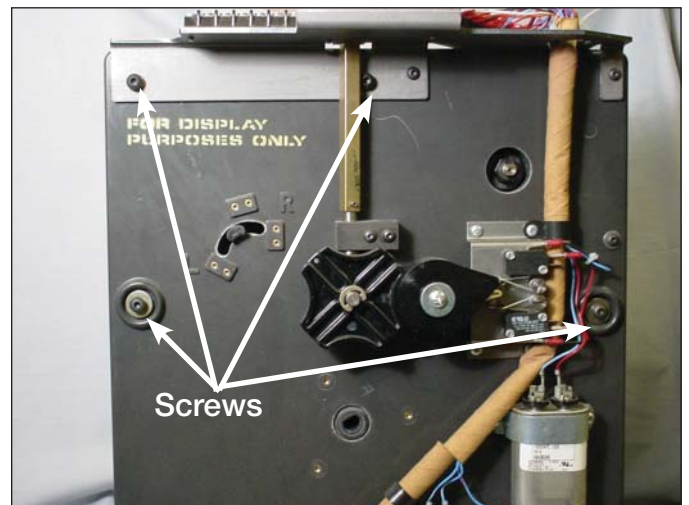

Figure 35.
- Insert four pan head Allen screws into the tap changer assemblies. Two screws will mount the two tap changer assemblies and the terminal block bracket at the top of the tap changer. The other two screws are inserted in the mounting holes along both side centers of the tap changer. See Figure 35.